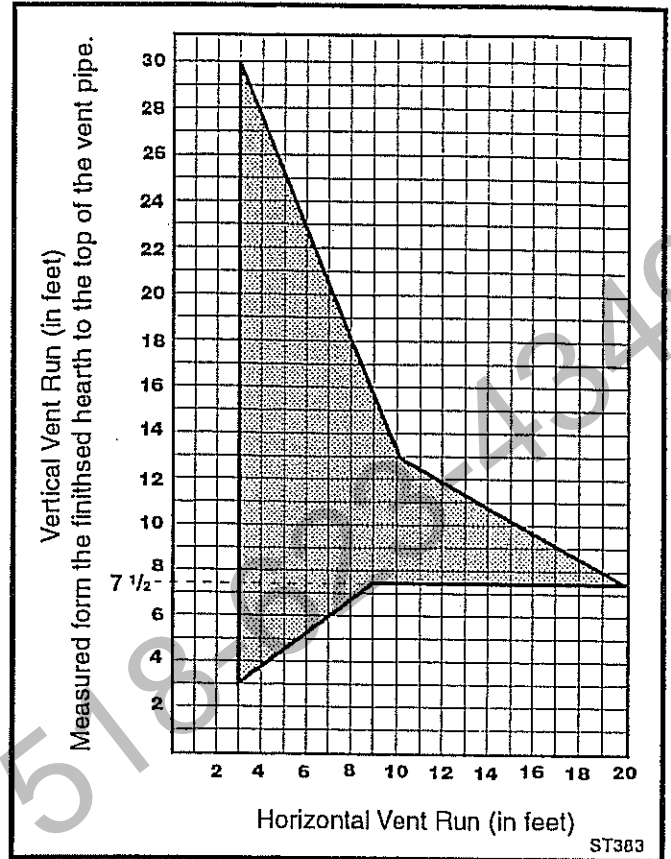

Fig. 9 Vent window for horizontally-terminated installation that include a vertical rise.
- Any installation that does not terminate immediately behind the stove, must terminate within the shaded area in Figure 9 above. Example: If the horizontal run is 9 feet (274 cm), the termination must be at least 7½ feet (229 cm) high.
The graph in Figure 9 showing the relationship between vertical and horizontal venting will determine the vent lengths allowable.